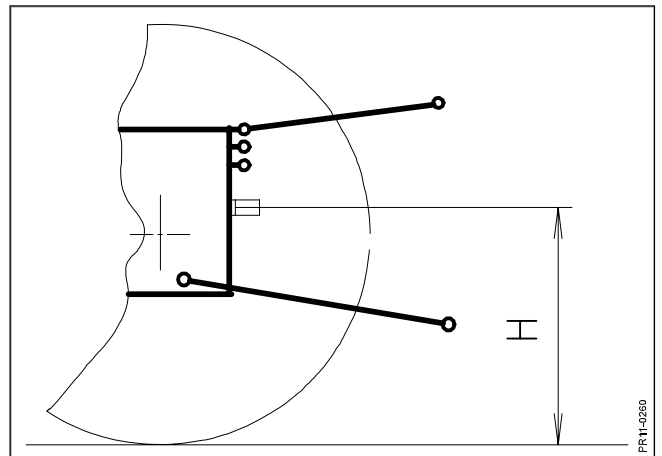

Fig. 2-6
- Fig. 2-6 1) Measure the height **H** from the tractor PTO shaft (power take-out) and to the ground.